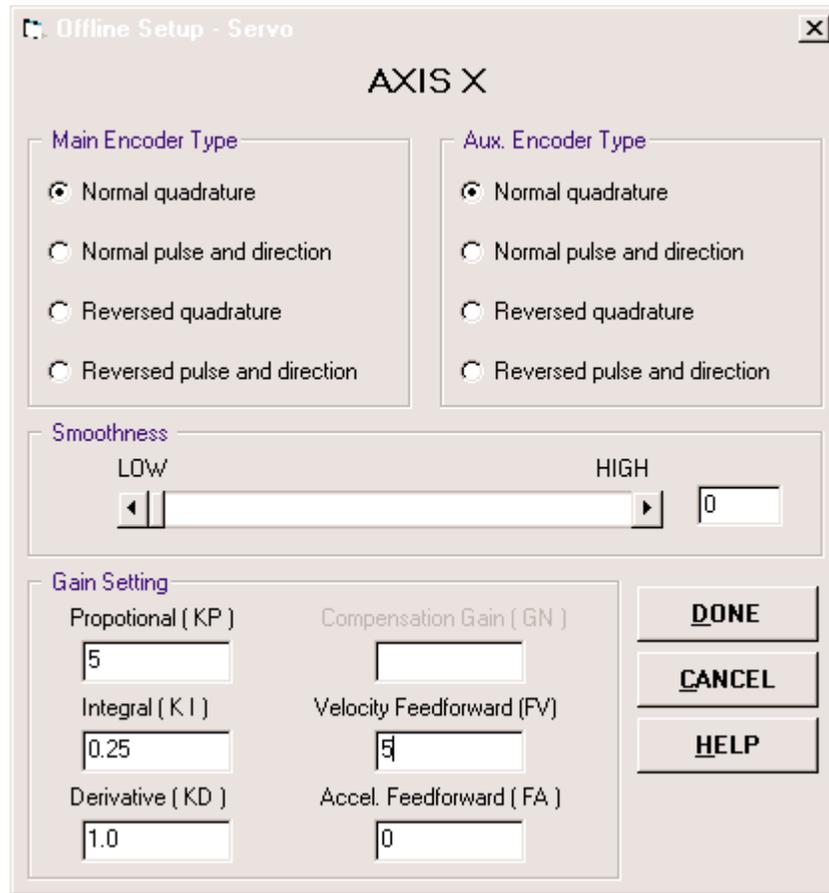

Figure 5.7 - Servo axis setup
A. Analog: If an analog signal is selected, a servo setup window, as shown in Fig. 5.7, will show up for you to configure the servo settings.